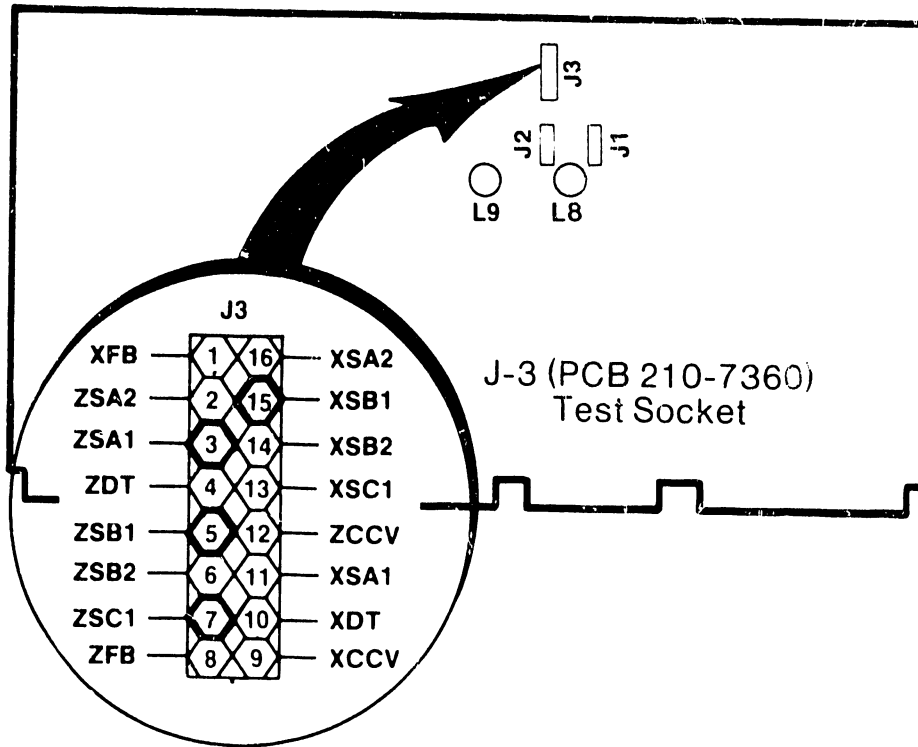

FIGURE 5-2 TEST CONNECTOR J3 (LOCATED ON PCB 210-7360)
19. On the servo board (210-7360), check that signals ZSA1 (L12-1) and ZSB1 (L14-1) are a 0V to -4V pp sine wave (see Figure 5-3). Test points are also located on test connector J3 on top middle of servo board 210-7360 (see Figure 5-2).